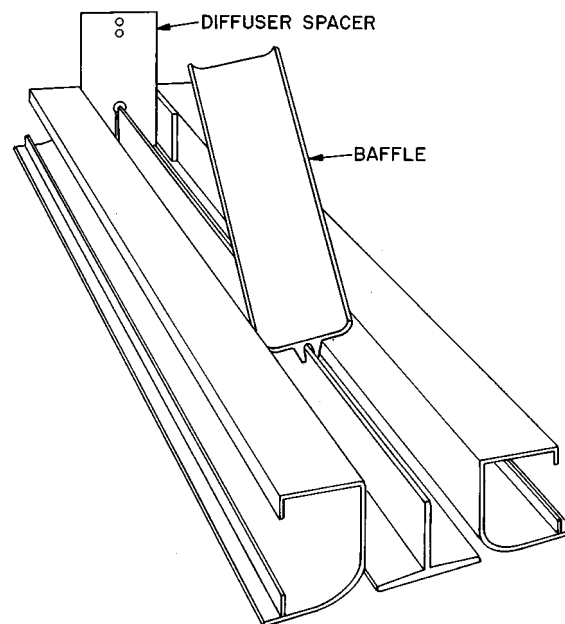

Fig. 23 — Diffuser Baffle Assembly
3. Push the diffuser baffle into the space between side diffusers and down onto the center diffuser at the end away from the unit. Then push down the end close to the unit. The baffle will form around the legs of the diffuser spacer and lock onto the center diffuser. See Fig. 23. Baffle should fill space between side diffusers between unit end and thermostat.